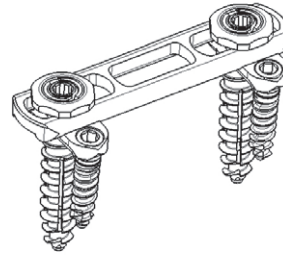

Fig. 2
- Polyaxial Twin Screw system T with plate or 2 rods, see Fig. 2.